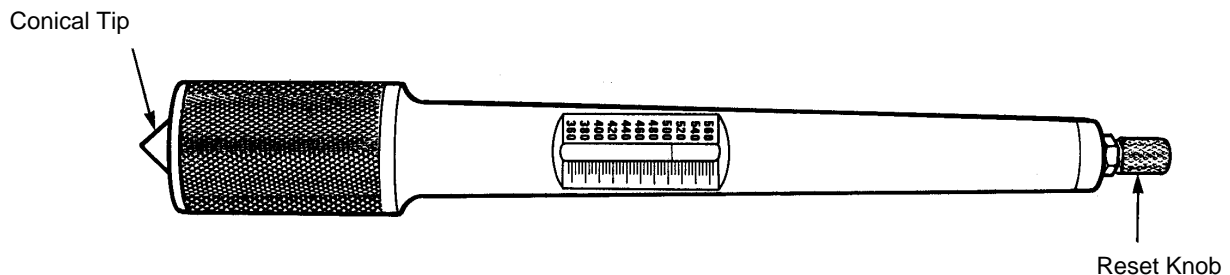

Figure 2 - Trulok Countersink Gauge
5.5.2 Use Trulock countersink gauges (see Figure 2) as follows: